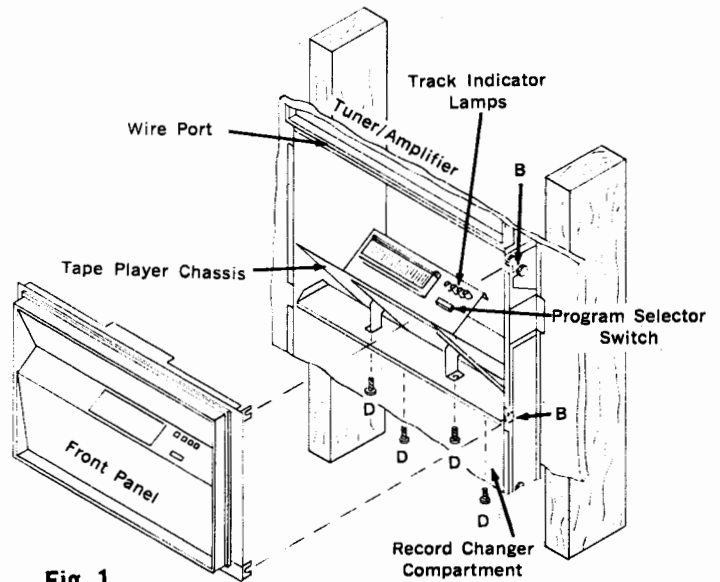
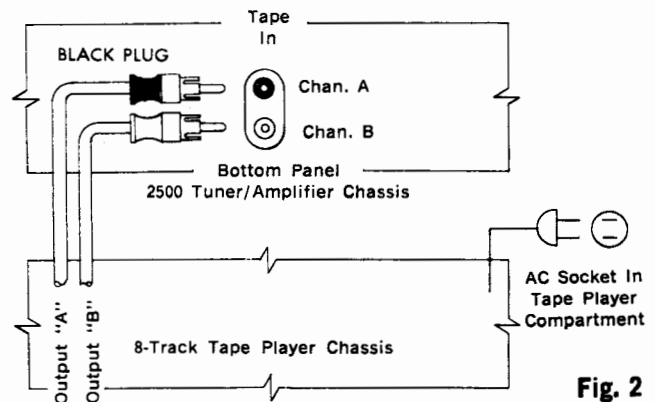

Fig. 1
Fig. 2
2. Loosen two knurl nuts "B" each side of "B" Box Assy. and remove Front Panel. Figure 1.
3. Disconnect AC plug from AC socket in right side of Tape Player Compartment. Figure 2.
4. Disconnect the two shielded audio cables from "TAPE IN" jacks in bottom of 2500 Tuner Amplifier. Figure 2. NOTE: Access to bottom of Tuner/Amplifier is through Wiring Port in top of "B" Box Assy. Figure 1.
6. Remove 4-screws "D" — inserted through top of Record Player Compartment into tinnerman clips on mounting brackets of Tape Player Chassis. Figure 1.